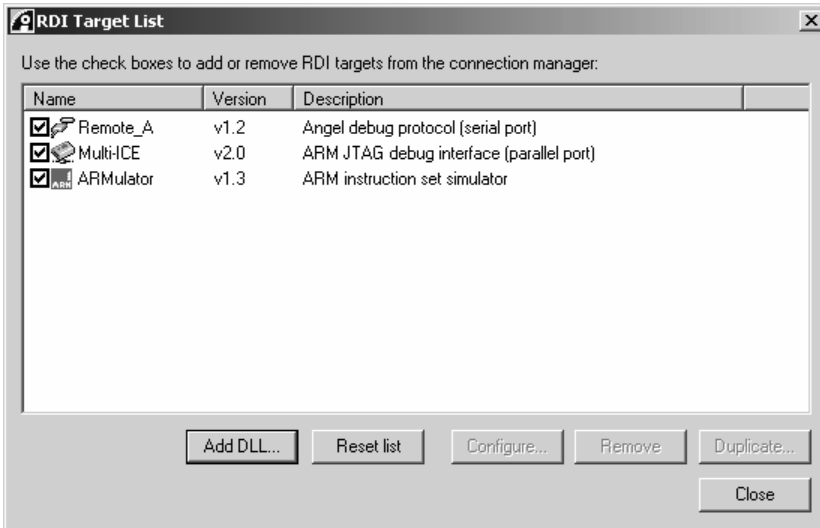

FIGURE 6 The RDI Target List dialog box.
3. The RDI Target List dialog box appears. Press the Add DLL button (Figure 6) and browse for the driver file SigJdsDI.dll found in typical installations in the \Signum\RDI folder.